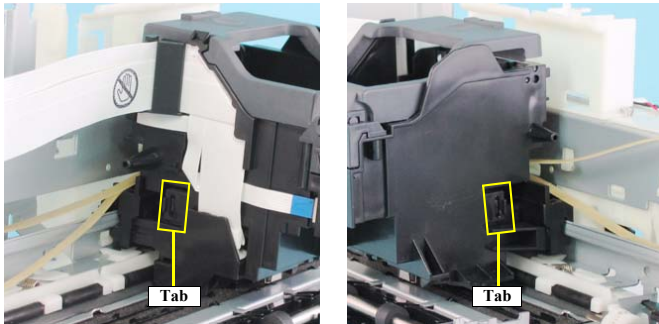

Figure 4-67. Removing CR Unit
- When installing the CR Unit to the Main Unit Frame, engage them as shown in Figure 4-67.
Before starting the following work, make sure that the two tabs shown in Figure 4-67 are already released.